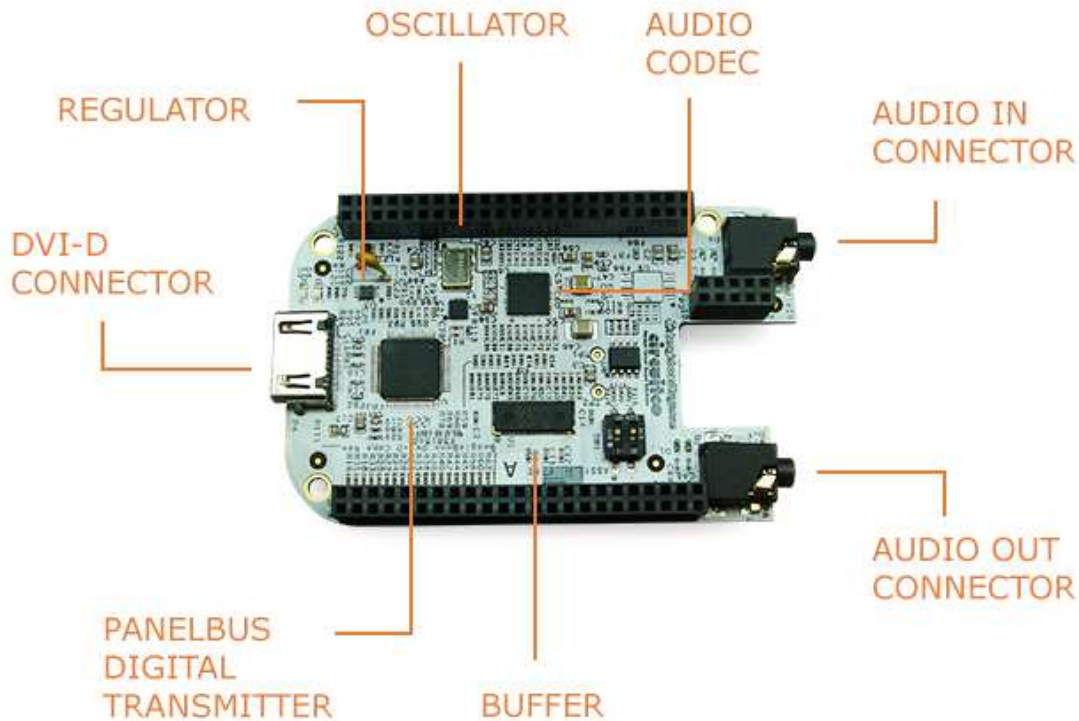

Figure 2. Major Components
**Figure 2** shows the location of the key components on the board.